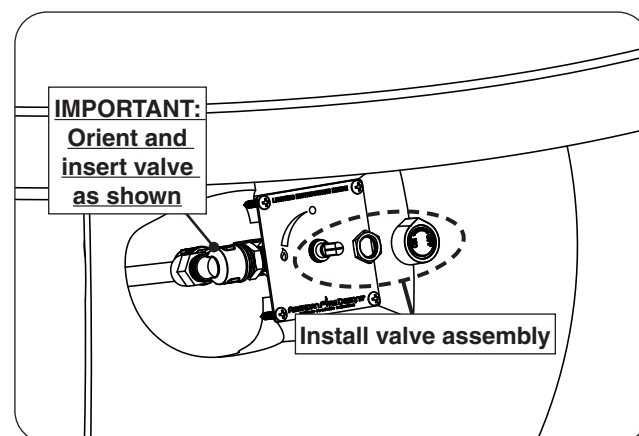

Fig. 27-4 Install valve assembly
6. Insert the valve assembly through the plate (in the base). Replace the nut onto the valve stem, and tighten. Reinstall the control knob. See Fig. 27-4.
Important: Handle with care to prevent damage to the thermocouple and gas connections. Ensure the valve is oriented and inserted in the manner shown. See Fig. 27-4.